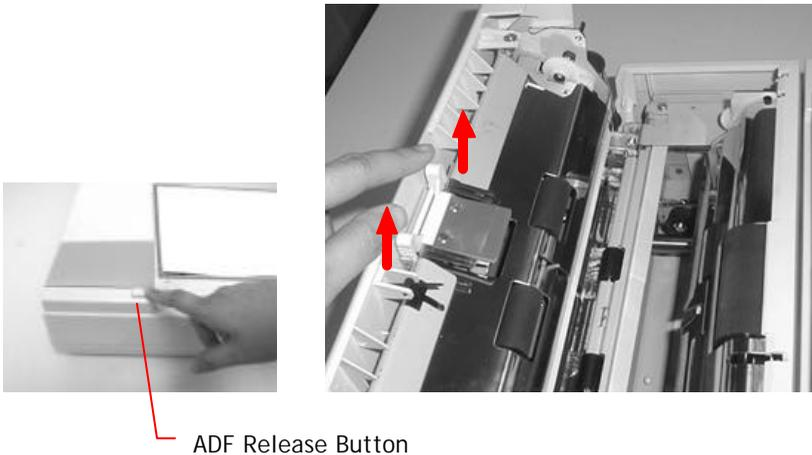

Figure 1 Remove the pad module
2. Use your fingers to hold the ADF detachable pad module and pull it out as shown in Figure 1.